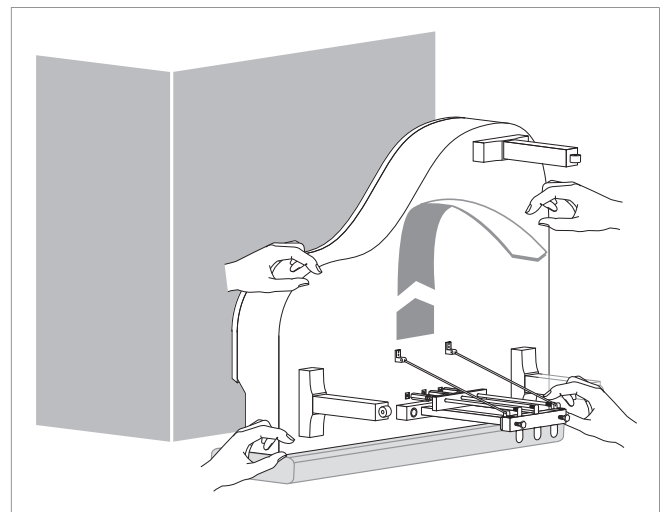

Fig. 2.6: Setting the piano upright
- 10) Place the piano in an upright position. Be absolutely sure to hold the piano at the positions shown in Fig. 2.6 to minimize the risk of overbalance. Lift the whole unit, rotate it and put it down on all legs simultaneously.